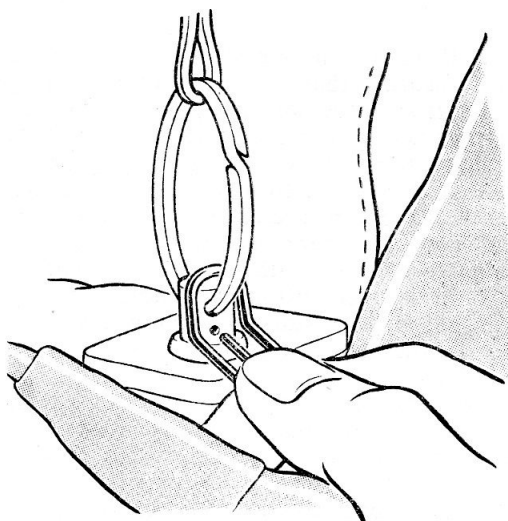

Fig. 11. Connecting the beacon to the battery switch pin—5th stage
(6) Raise the switch plunger (fig. 11) by lifting the ring with a loop of cord and insert the switch pin through the hole which becomes exposed when the plunger is lifted.
(7) Place the beacon in its stowage over the battery pocket, bring the two edges of the flaps together and secure them by passing the draw rod through the beackets from front to rear, using them alternately.
(8) Pull over the outer flap and secure it with the press studs.
(9) Stow the loop of cable between the battery and the beacon under the cable retaining flap in front of the armhole of the suit.
(10) Pass the battery cable through the retaining flaps beside the armhole and behind the neck.
(11) Stow the speech unit and any surplus cable in the speech unit pocket on the left front of the garment and close the pocket by passing the draw rod from bottom to top through alternate beackets.
(12) Secure the finger ring on the draw rod with the snap fastener on the bottom of the pocket.